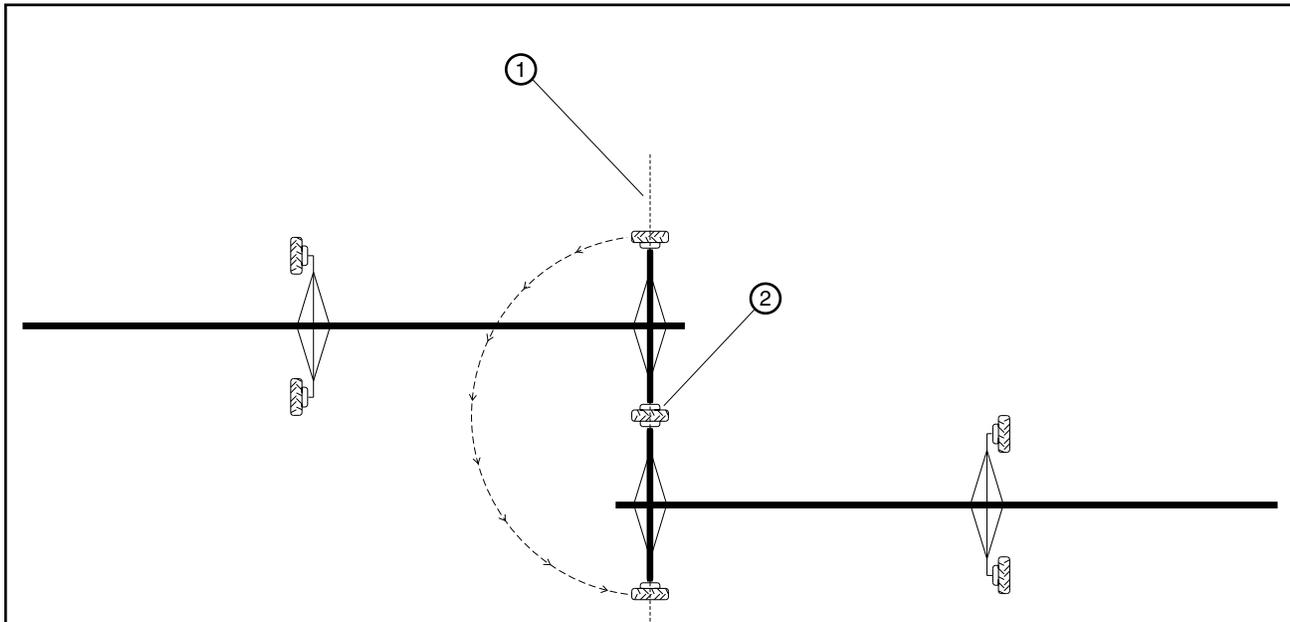

Figure 58-2 Fixed Wheel method.
7. When the machine is started it will pivot around the center of the fixed wheel. See Figure 58-2.